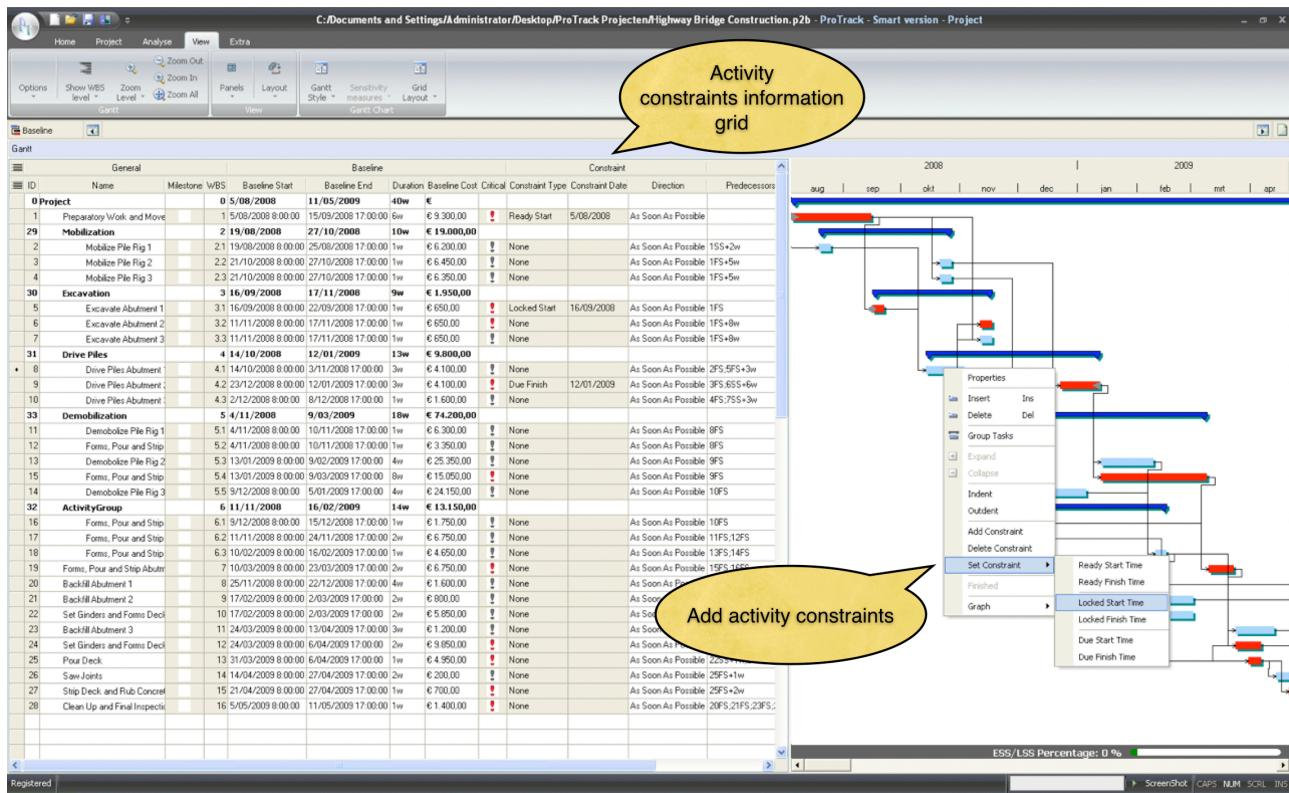

Figure 7. Adding activity constraints in ProTrack
- * A constraint can be easily added by right clicking on the activity and setting the possible constraints at the current start or finish time of the activity (see figure 7).